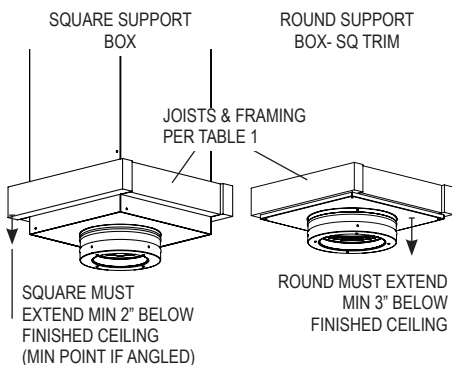

Figure 7
2. Frame Support Opening: Drop a plumb bob to the center of the appliance's flue outlet and mark this center point on the ceiling. Refer to **Table 1** for specific framing and clearance dimensions. Mark appropriate cutting lines around the center point. Cut a square hole in the ceiling for the Support Box. Frame a level, square opening centered over the hole which you have cut. (**Fig.7 and 8**).
For the Round support box, the trim mounts flush to the ceiling with the bottom protruding a min of 3" below the ceiling (**Fig.7**). For the Square support box, the square face must protrude a min of 2" below the ceiling (**Fig.7**). Level the Support Box and secure it to the framing using at least three 8-penny nails per side (min. of 12 total). Alternatively, you may use 1-1/2" #8 wood screws (min. of 12 total), instead of nails. After the Support Box is mounted, secure the Trim Collar (round or square) to the framing members using the (4) 1" long, round-head wood screws provided
(A) Support Box: For a Square Ceiling Support Box, Reduced Clearance Support Box, or CAS Ceiling Support installation, make sure that the square box portion of the Support Box can extend at least 2" below the low side of the finished ceiling (**Fig.7, 19**). If the CAS Ceiling Support is used, refer to the DuraTech CAS Installation Instructions for directions on how
A2. Install Support Box: Slip the Square Support Box, Reduced Clearance Support Box, or the CAS Ceiling Support into the framed opening so the square portion projects at least 2" below the finished ceiling and rafters (bottom of round portion is 5" below, **Fig.7**), and extends above the ceiling to framing or decking materials to which it can be nailed. Level the Support Box, and slit the corners to the roofline where they extend beyond it. Bend the flaps (created by the slitting) flush with the roof, and nail the Support Box to the roof or